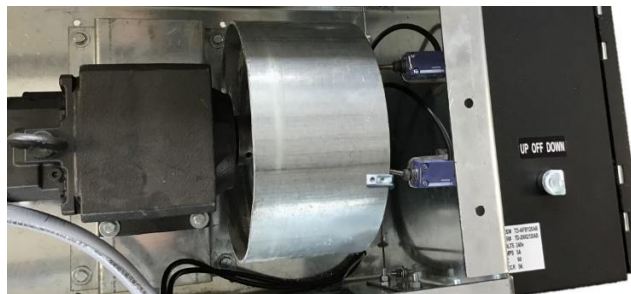

Figure 59
- Once chutes are level install beam clamp so it is positioned against the “closed limit switch”. Ex. (Figure 59)